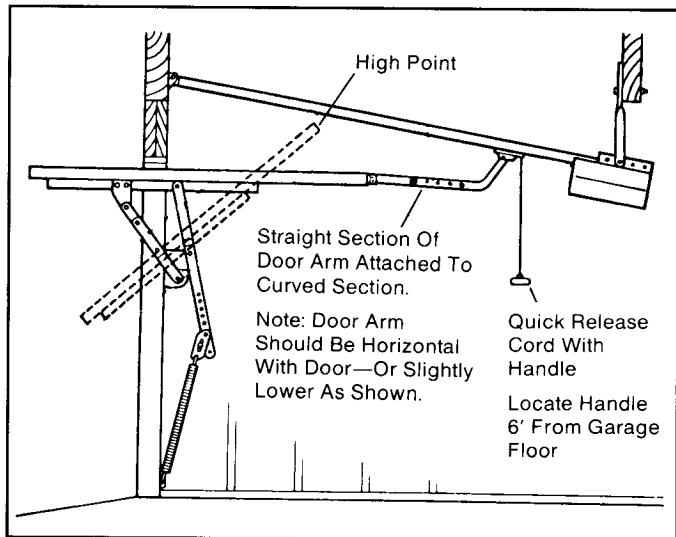

Figure 26. Connecting Door Arm Sections.
Step 10: Attach the curved section of the door arm to the trolley bottom as shown in Figure 26. To attach, remove the hitch-pin clip from the clevis pin and remove the clevis pin from the trolley bottom. Next, insert door arm section into trolley bottom and place clevis pin through the trolley bottom and door arm and lock in place with hitch-pin.
Step 11: Connect the two free ends of the door arms by rotating the straight section upward to the rear-vertical (toward the curved door-arm section) so that two holes in each section can be matched. See Figure 26. Connect the two parts of the door arm using the bolts and keps nuts supplied.
Step 12: Attach pull cord to quick-release lever on trolley bottom as shown in Figure 26 on page 11.